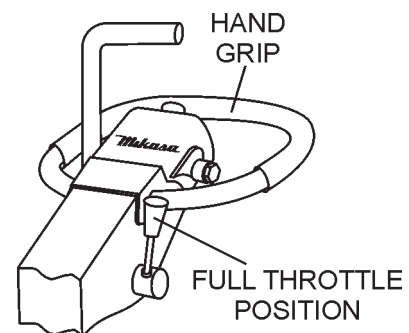

Figure 20. Throttle Lever (Fast)
- Grasp the compactor's hand grip (Figure 20), and move the engine throttle lever (Figure 20) quickly to the **fast** position.